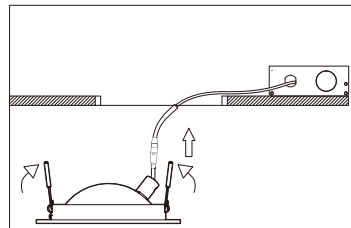

FIG. 5
4. Push the easy mount clips up and insert the downlight into the ceiling, release clips to mount the downlight on the ceiling. (Fig. 5)